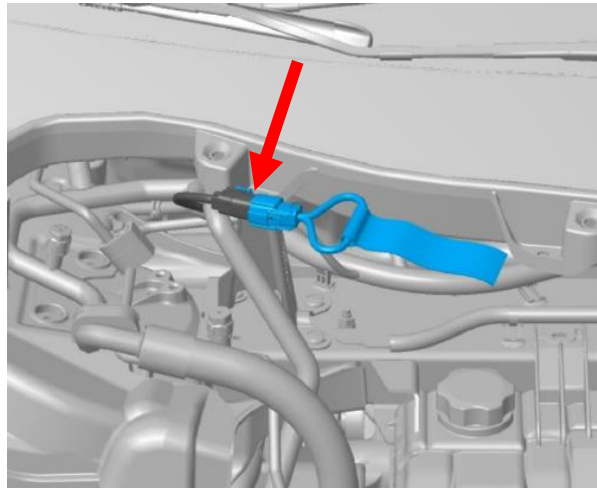

Figure 21. First responder loop
- n. Disconnect, but do not cut, the first responder loop (Figure 21).